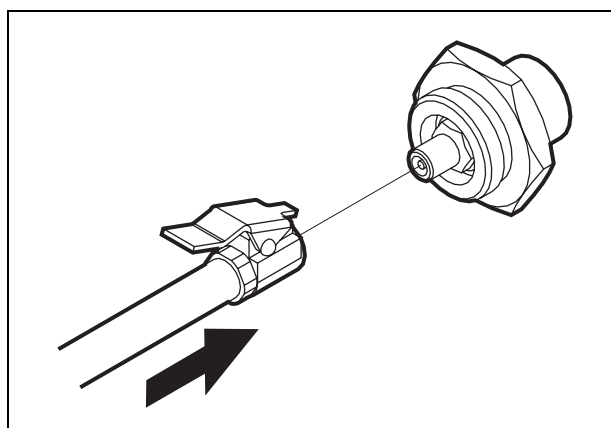

Fig. 29 Connect the air pump to the nipple
3. Connect the air pump supplied with the grapple saw to the air tank and charge to the required pressure range. *See Fig. 29.*